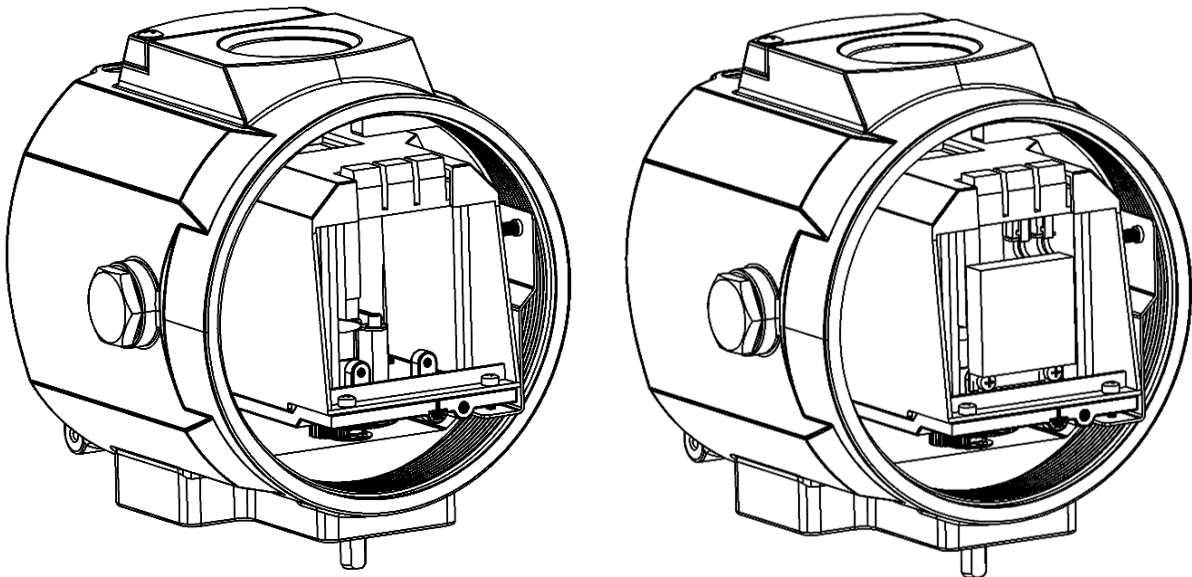

Figure 27. Feedback module installation
- Install the feedback module according to the position shown in Figure 27, and connect electrical connectors of the module with the connectors on the circuit board according to the